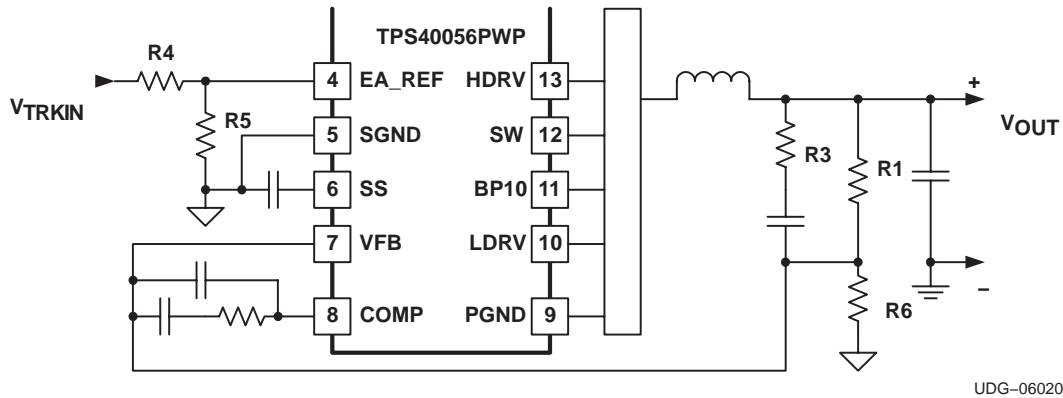

Figure 1. Tracking Configuration, V_{OUT} Tracks V_{TRKIN}
Setting the output, V_{OUT} to track another voltage, V_{TRKIN}, is simply a matter of selecting the proper voltage divider(s) R4, R5, R1 and R6 as shown in Figure 1. The voltage on the EA_REF input should be in the range of 0.2 V to 2.5 V. If the output voltage is less than 2.5 V, resistor R6 can be omitted. For example in the DDR case, if the voltage V_{TRKIN} ramps up to 2.5 V and it is desired to have V_{OUT} to track it and come up to 1.25 V, set R4=R5 and omit R6. In general, the output voltage, V_{OUT}, in terms of V_{TRKIN} and the two voltage dividers is shown in Equation (2).